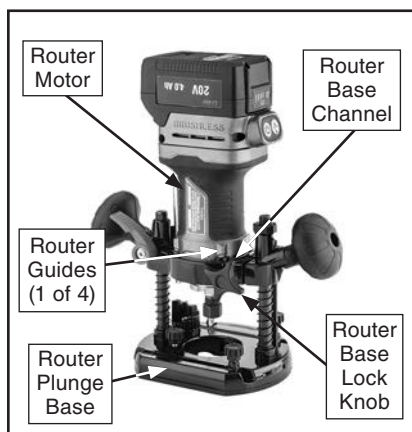

Figure 10. Plunge base assembled on router.
1. Loosen router base lock knob on router plunge base (see **Figure 10**).
2. Install router motor on plunge base by aligning router motor guides with router base channels and pressing motor into base (see **Figure 10**).